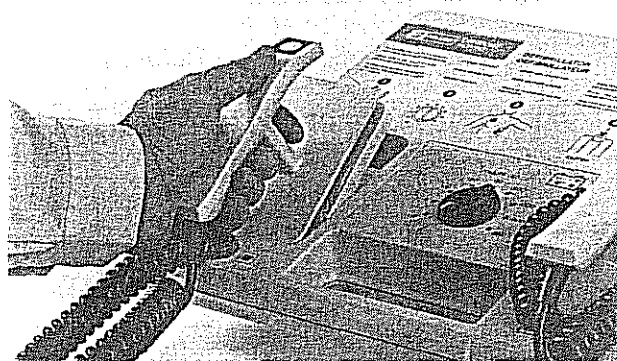

Figure 6
- * After completing the test, reset the energy selector switch to zero and return the electrodes - as shown in Figure 6 - to the holders provided.